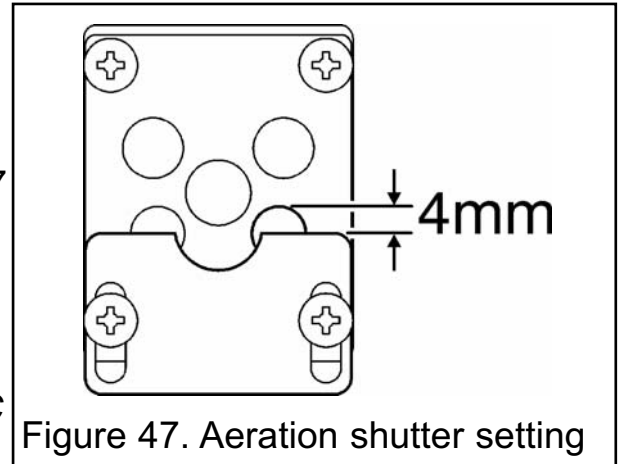

Figure 47. Aeration shutter setting
1. The aeration shutter is factory set and should not require adjustment. If the shutter is not as shown in figure 47 and requires adjustment, loosen the two aeration shutter screws, slide the aeration shutter to the position shown in figure 47 and tighten the fixing screws.